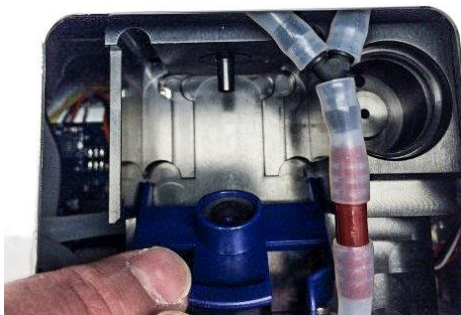

Figure 34: Inspect top inlet fitting and blue cassette holder
3. Inspect top inlet fitting and blue cassette holder for broken pieces or missing seals (Figure 34).